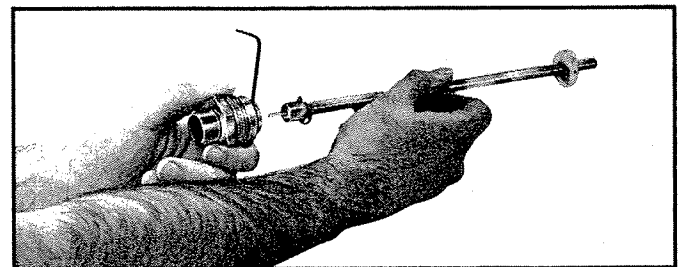

FIGURE 5
**C.** Loosen Set Screw (13) with a  $\frac{3}{32}$ " hex. key and separate Actuator (2) from Actuator Plug (21) on end of Actuator Rod (3). See Figure 5.